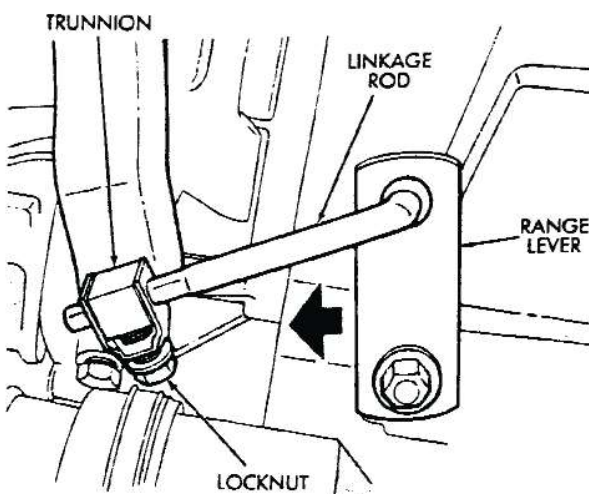

Fig. 1-4 Shift Linkage-80 Series
7. Loosen the lock bolt on the adjusting trunnion (Fig. 1-4). The linkage rod should now slide freely in the trunnion.
8. Verify that range lever is in 4L position (Fig. 1-4).
9. Position linkage rod so it is a free fit in the range lever. Then tighten the trunnion locknut (Fig. 1-4).